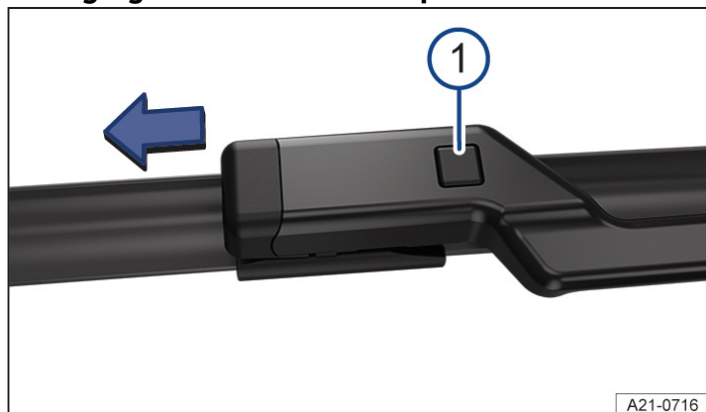

Fig. 1 Changing the windscreen wiper blades.
① Release button for the wiper blade.
3. Press and hold the release button and simultaneously pull off the wiper blade in the direction of the arrow → Fig. 1 ①.